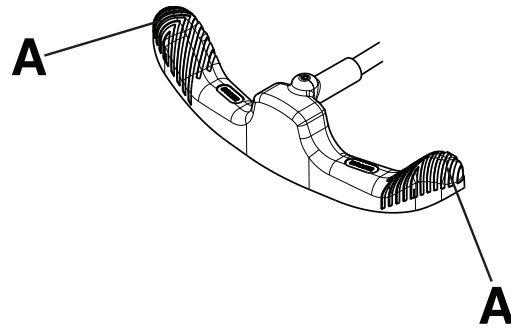

Figure 8 – Operating the brake/steer pedal
Note - Do not push down on the center of the brake/steer pedal. Always push down on the outer side (A) of the brake/steer pedal (Figure 8).